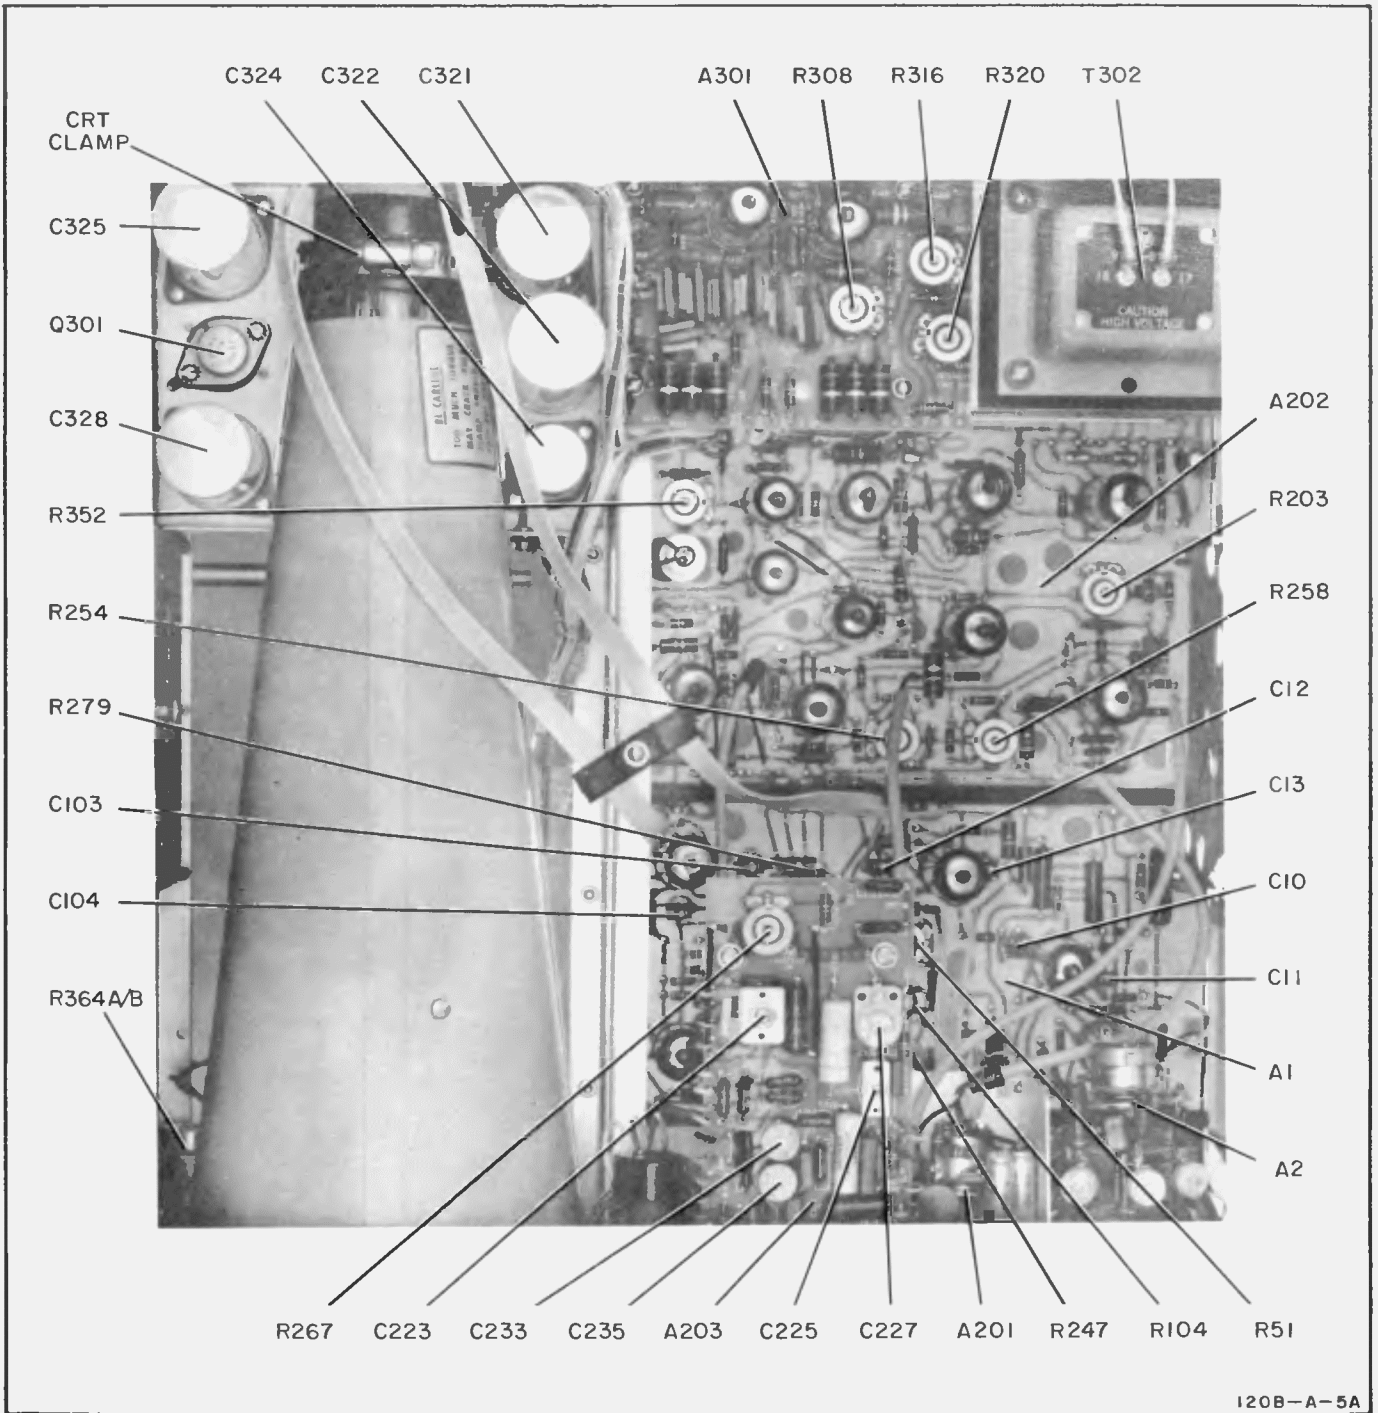

Figure 5-1. Top View, Location of Parts and Adjustments
to isolate a malfunction to a particular functional section of the Model 120B; and sectional troubleshooting, which is used to locate the faulty detail part. Figures 5-1 through 5-4 show the location of parts whose designations are not directly imprinted on a circuit board or chassis.
- b. Loosen clamp screw (figure 5-1) on crt base; do not remove screw or clamp.
5-29. **-150-VOLT ADJUSTMENT.** Using a dc VTVM, adjust potentiometer R352 (figure 5-1) for -150 volts dc.
- b. Adjust potentiometer R308 (figure 5-1) for a voltmeter reading of -2500 volts.